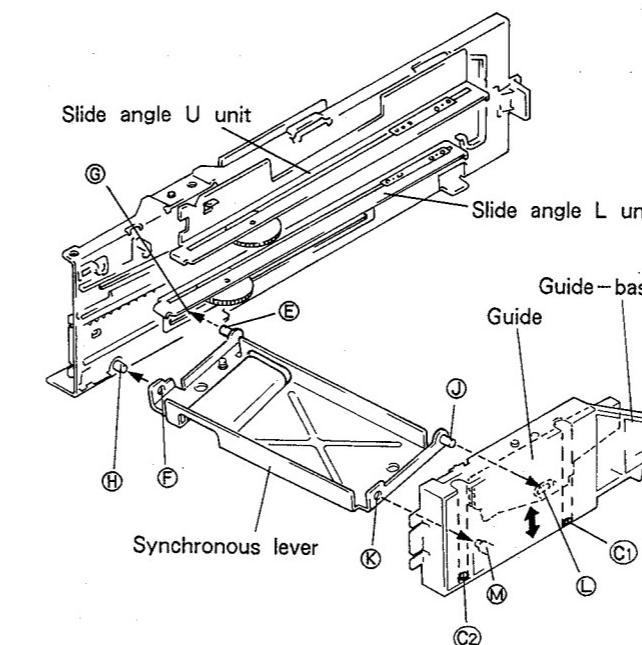

Fig. 3-6
1. Refer to Fig. 3-6 and remove 2 screws  $C_1$  -  $C_2$  and slide guide-base toward main board assembly.